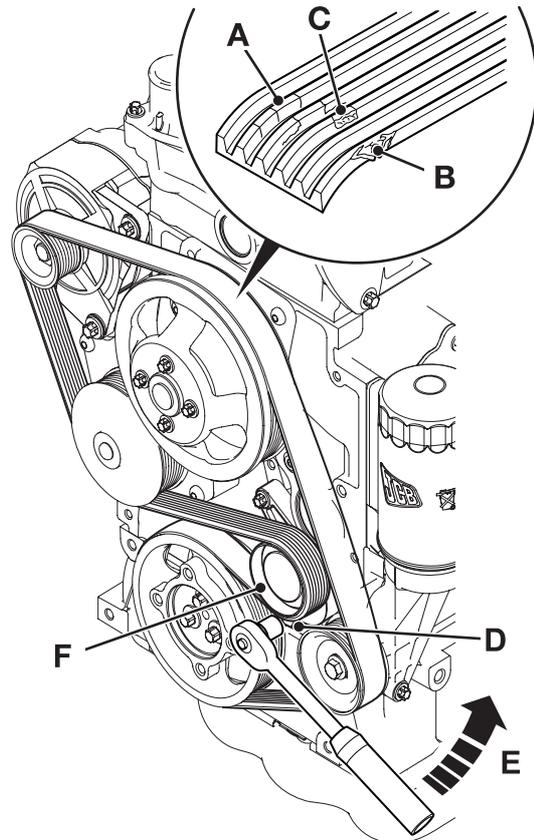

Fig 44.
- 2 Inspect the belt for cracks **A**, fraying **B** or missing pieces **C**. → Fig 44. (□ 3-49).
- 6 Fit the new drive belt around the pulleys. → Fig 44. \(□ 3-49\).